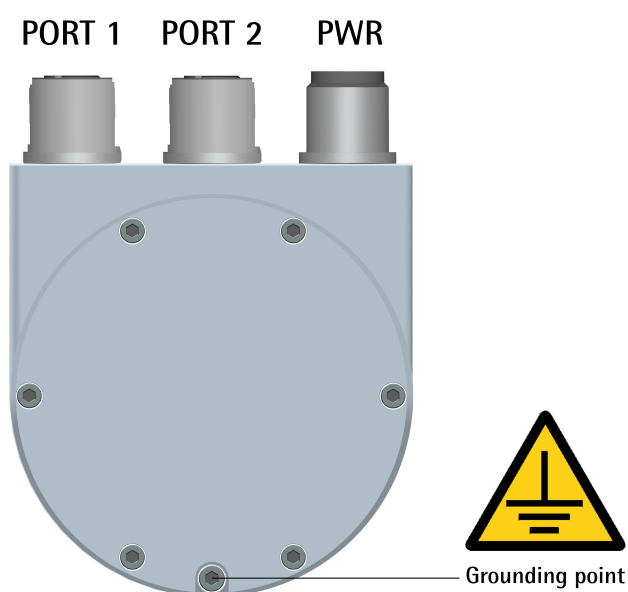

Figure 1 - Electrical connection and grounding point
5.2 PWR Power supply connector (Figure 1)
5.3 P1 Port 1 and P2 Port 2 connectors (Figure 1)